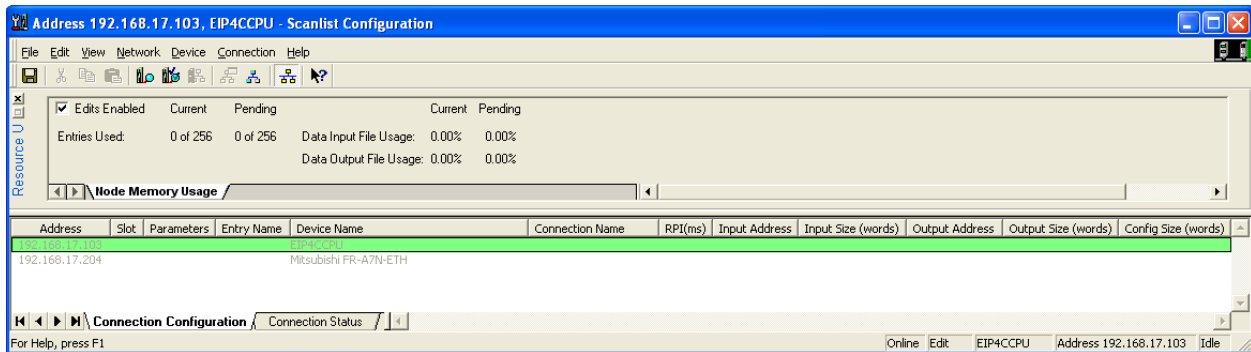

Figure 65: RSNetWorx Scanlist Configuration
- a) Select the EIP4CCPU scanner and navigate to Device...Scanlist Configuration (see Figure 65).